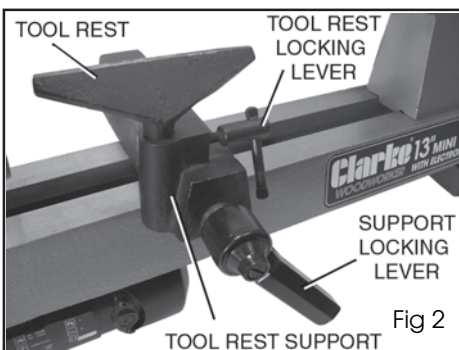

Fig 2
3. Attach the tool rest locking lever and the support locking lever in their positions using the coil spring and machine screw provided for each as shown in Fig 2.